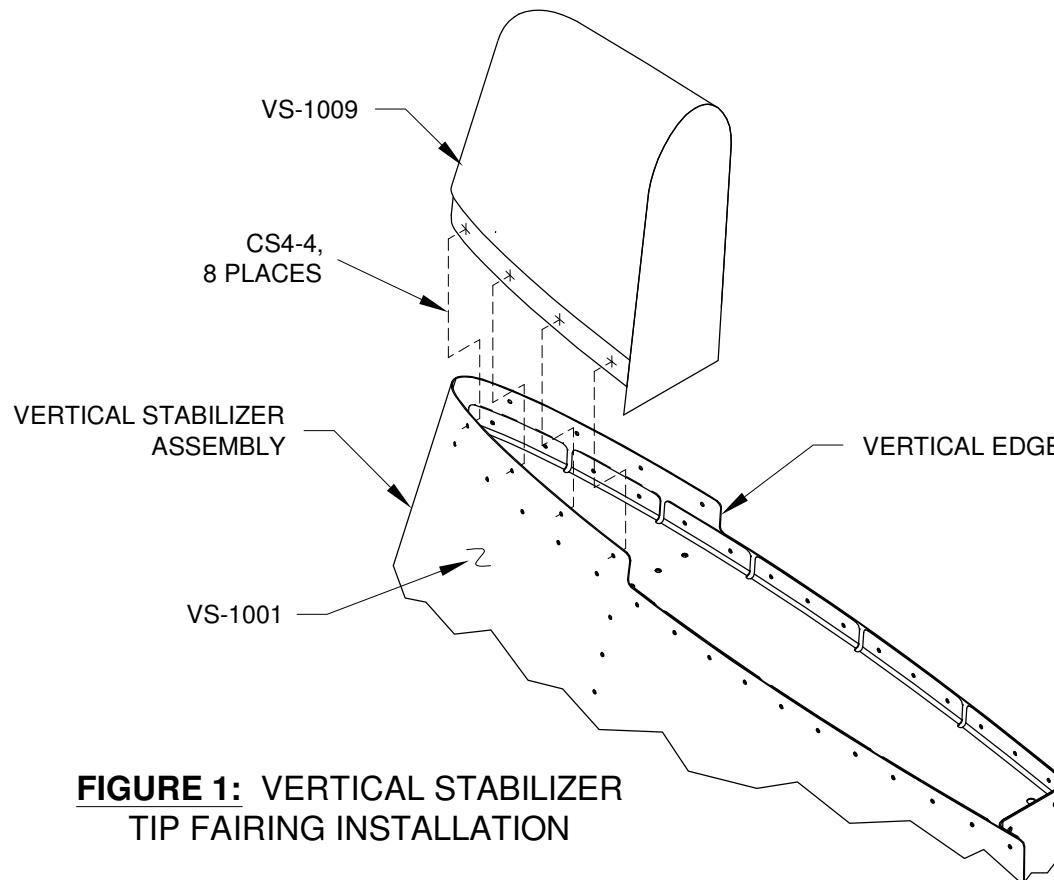

FIGURE 1: VERTICAL STABILIZER TIP FAIRING INSTALLATION
Step 1: Trim the width of the molded flange on the VS-1009 Vertical Stabilizer Tip Fairing if required to meet the dimensions given on Page 12-2, Figure 1. Trim away the aft edge of the vertical stabilizer tip fairing so the aft edge is parallel and flush with the vertical edge on the VS-1001 Skin as indicated in Figure 1. This will provide a minimum 1/8 inch gap between the aft face of the vertical stabilizer tip fairing and the forward face of the rudder counterbalance arm.
Step 5: Cleco and rivet the VS-1009 Vertical Stabilizer Tip Fairing onto the vertical stabilizer assembly per the callouts in Figure 1.